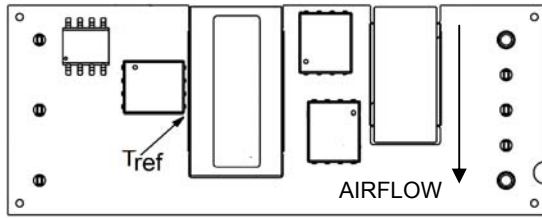

Figure 13. T_{ref} Temperature Measurement Location for Open Frame Module.
To provide protection under certain fault conditions, the unit is equipped with a thermal shutdown circuit. The unit will shutdown if the thermal reference point T_{ref} (Figure 13), exceeds 135°C (typical), but the thermal shutdown is not intended as a guarantee that the unit will survive temperatures beyond its rating. The module can be restarted by cycling the dc input power for at least one second or by toggling the remote on/off signal for at least one second. If the auto-restart option (4) is ordered, the module will automatically restart upon cool-down to a safe temperature.
The thermal reference point, T_{ref} used in the specifications for open frame modules is shown in Figure 13. For reliable operation this temperature should not exceed 123°C.